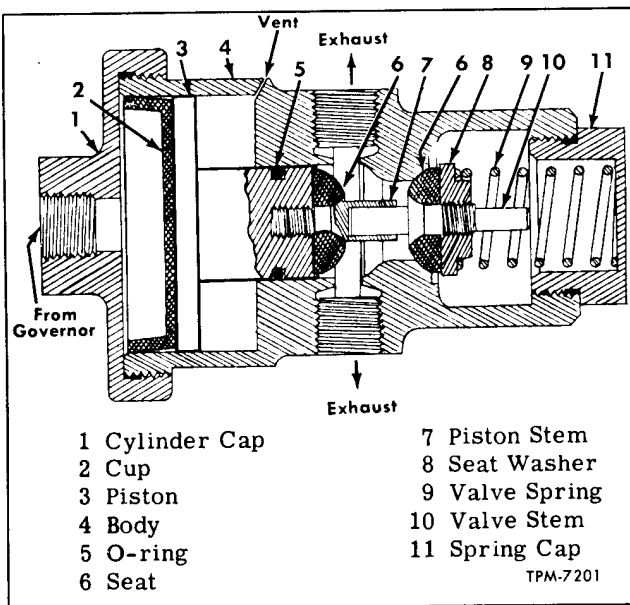

Figure 5—Moisture Ejector Valve (Graham-White)
Another purpose of the tanks is to provide a place where the air heated during compression can cool, and the oil and the water vapors can condense. Most of this condensation takes place in the rear or "wet" tank. The moisture ejector valve (fig. 5) when used, automatically drains condensation from the rear tank. If moisture ejector valve is not used, the rear tank as well as front and auxiliary air tanks must be drained manually each day. To drain tanks properly, leave drain cocks open until all air escapes and until draining stops.
DESCRIPTION (Fig. 5)
- Key numbers in text refer to figure 5.
1. Unscrew spring cap (11) and remove from valve body (4).
2. Remove valve spring (9) and intake valve assembly, consisting of seat (6), seat washer (8), and valve stem (10) as an assembly, from valve body.
3. Turn seat washer (8) off valve stem (10). Remove seat (6) from valve stem (10).
4. At opposite end of the assembly, unscrew cylinder cap (1) and remove from valve body (4).
5. Push on piston stem (7) and remove cup (2), piston (3), O-ring (5), seat (6), and piston stem (7) from valve body (4).
6. Unscrew piston stem (7) from piston. Remove seat (6).
7. Remove O-ring (5) from piston and discard
Key numbers in text refer to figure 5.